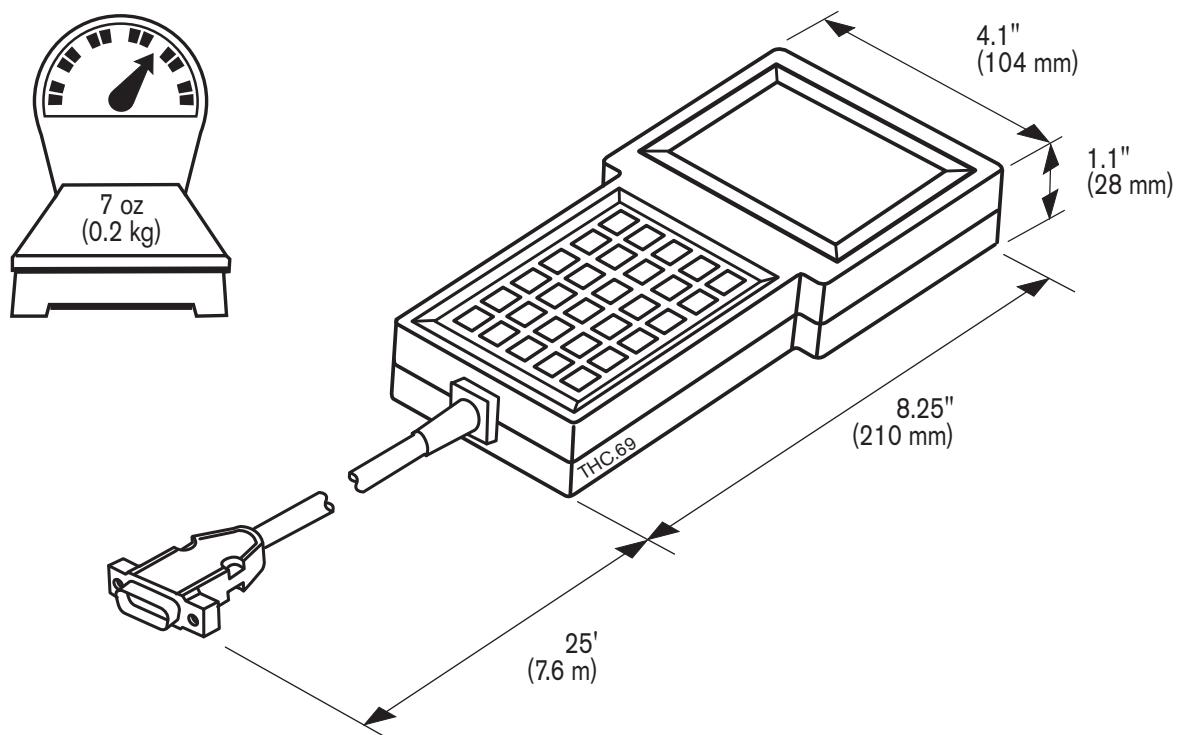

Figure 2-5 Operator pendant
- **Operator pendant (optional)** (Figure 2-5) The operator pendant is a remote control which includes an LCD display and keypad used for THC setup and control (parameter entry and menu selection).